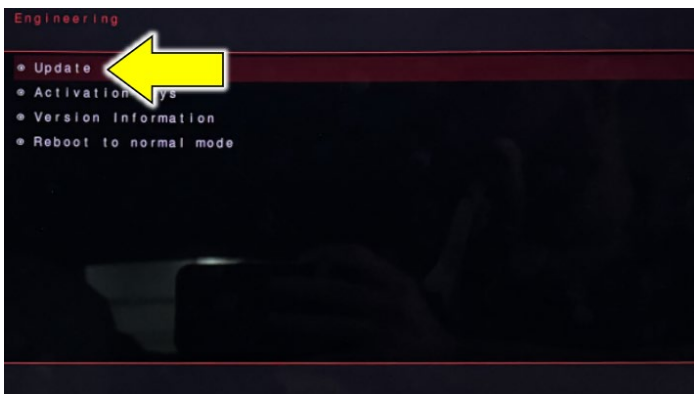

Figure 6: Update button
- Select “Update” (see figure 6).